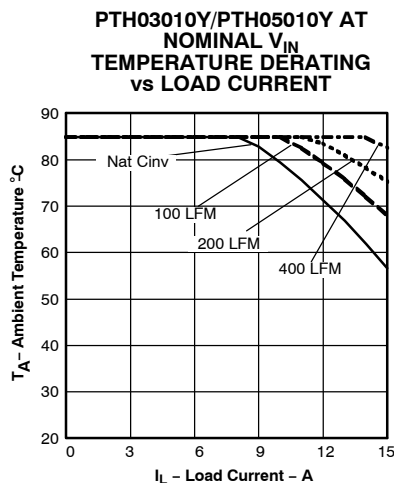
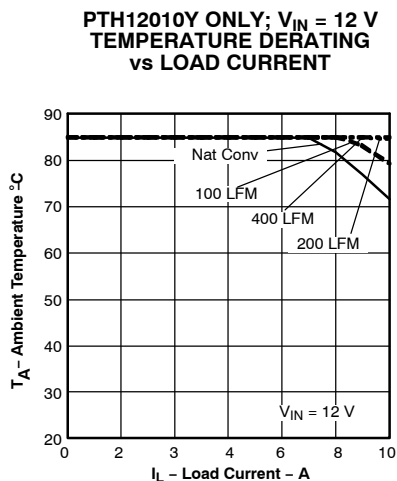

Figure 4.
Figure 5.
- (2) The temperature derating curves represent the conditions at which internal components are at or below the manufacturer's maximum operating temperatures. Derating limits apply to modules soldered directly to a 4 in x 4 in double-sided PCB with 1 oz. copper. For surface mount packages (AS and AZ suffix), multiple vias (plated through holes) are required to add thermal paths around the power pins. Please refer to the mechanical specification for more information. Applies to Figure 4, and Figure 5.